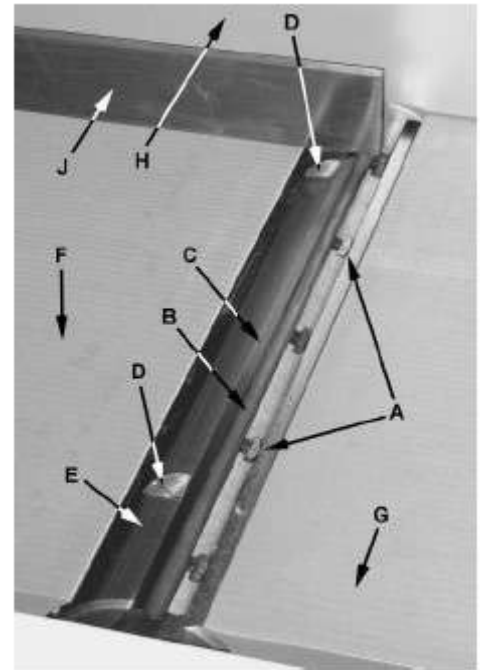

Figure 11
- Referring to Figures 11 and 12:
3. Carefully number each knife blade (C) with a magic marker to differentiate each.